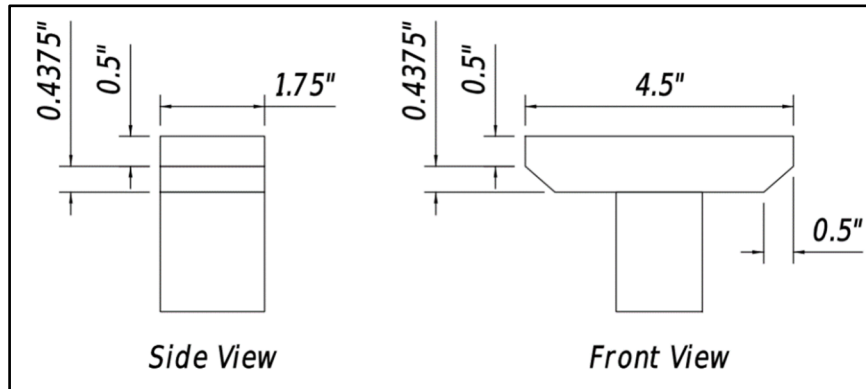

Figure 7. Support Detail
- f) Maximum width of the bridge shall be no more than 4.5 inches to fit on Pitsco Tester, refer to Figure 7.